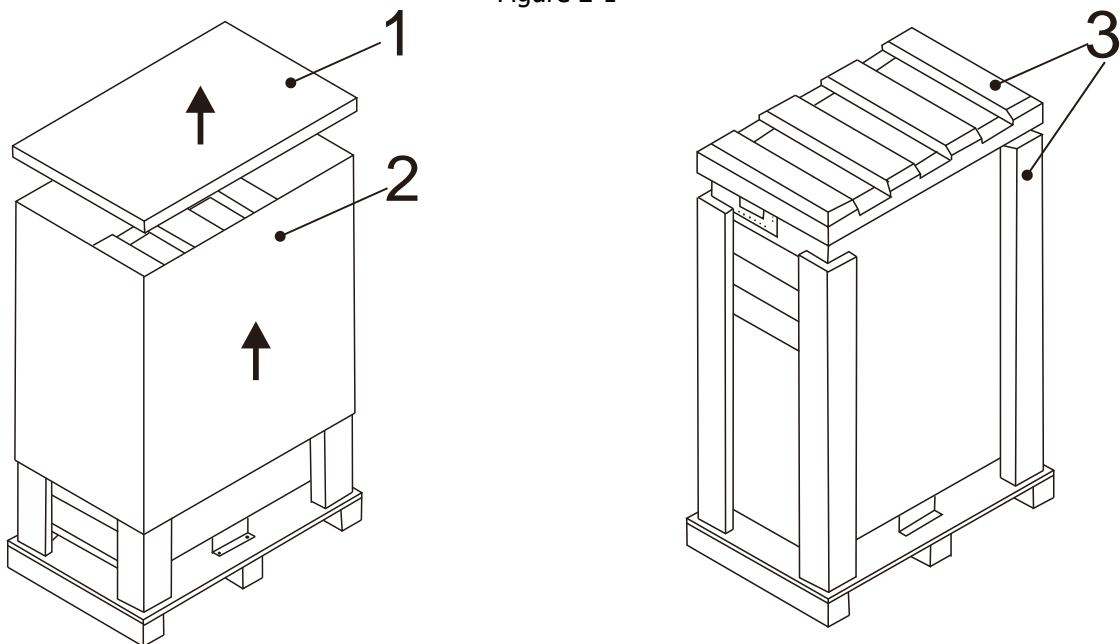

Figure 2-2
2. Please follow the order in Figure 2-2 to remove carton and foams.